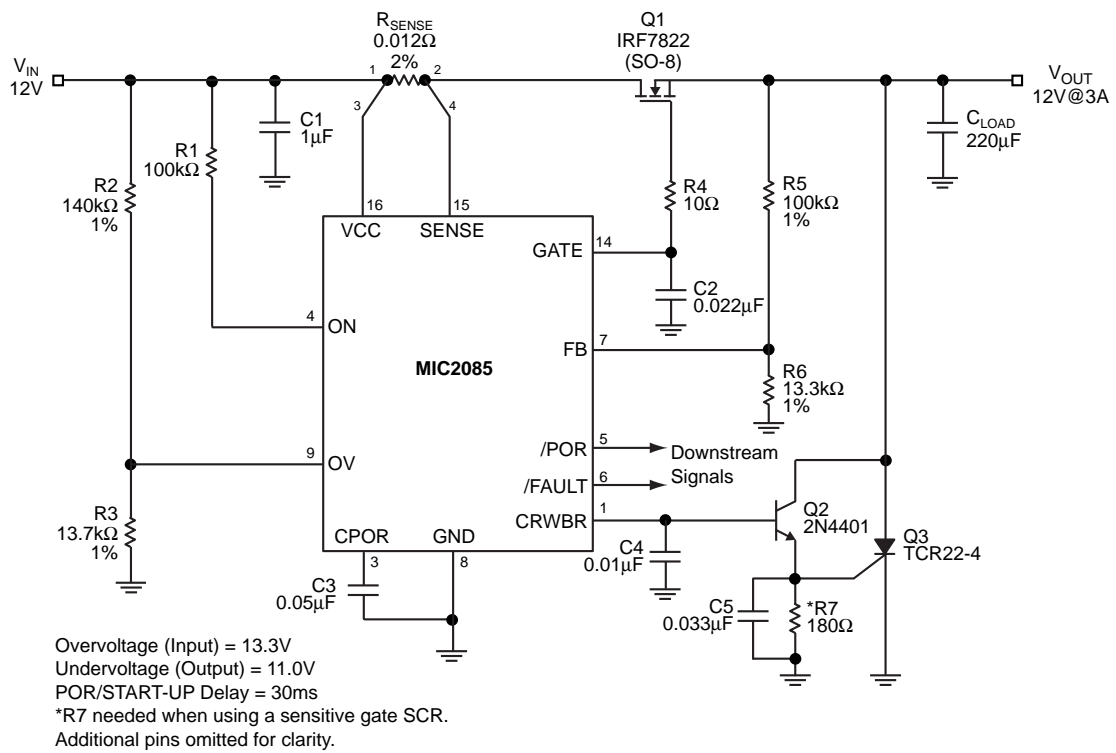

Figure 5. Undervoltage/Overvoltage Circuit
For output undervoltage detection, the first consideration is to establish the output voltage level that indicates “power is good.” For this example, the output value for which a 12V supply will signal “good” is 11V. Next, consider the tolerances of the input supply and FB threshold ( $V_{FB}$ ). For this example, the 12V supply varies  $\pm 5\%$ , thus the resulting output voltage may be as low as 11.4V and as high as 12.6V. Additionally, the FB threshold has  $\pm 50\text{mV}$  tolerance and may be as low as 1.19V and as high as 1.29V. Thus, to determine the values of the resistive divider network (R5 and R6) at the FB pin, shown in Figure 5, use the following iterative design procedure.
The external CRWBR circuit shown in Figure 5 consists of capacitor C4, resistor R7, NPN transistor Q2, and SCR Q3. The capacitor establishes a time duration for an overvoltage condition to last before the circuit breaker trips. The CRWBR timer duration is approximated by the following equation:
where  $V_{CR}$ , the CRWBR pin threshold, is 0.47V and  $I_{CR}$ , the CRWBR pin current, is  $45\mu A$  during the timer period (see the CRWBR timer pin description for further description). A similar design approach as the previous undervoltage detection example is recommended for the overvoltage protection circuitry, resistors R2 and R3 in Figure 5. For input overvoltage protection, the first consideration is to establish the input voltage level that indicates an overvoltage triggering a system (output voltage) shut down. For this example, the input value for which a 12V supply will signal an “output shut down” is 13.2V (+10%). Similarly, from the previous example:
multi-layer layout for the  $R_{\text{SENSE}}$ , Power MOSFET, timer(s), overvoltage and feedback network connections. The feedback and overvoltage resistive networks are selected for a 12V application (from Figure 5). Many hot swap applications will require load currents of several amperes. Therefore, the power ( $V_{\text{CC}}$  and Return) trace widths (W) need to be wide enough to allow the current to flow while the rise in temperature for a given copper plate (e.g., 1 oz. or 2 oz.) is kept to a maximum of  $10^{\circ}\text{C} \sim 25^{\circ}\text{C}$ . Also, these traces should be as short as possible in order to minimize the IR drops between the input and the load. For a starting point, there are many trace width calculation tools available on the web such as the following link: